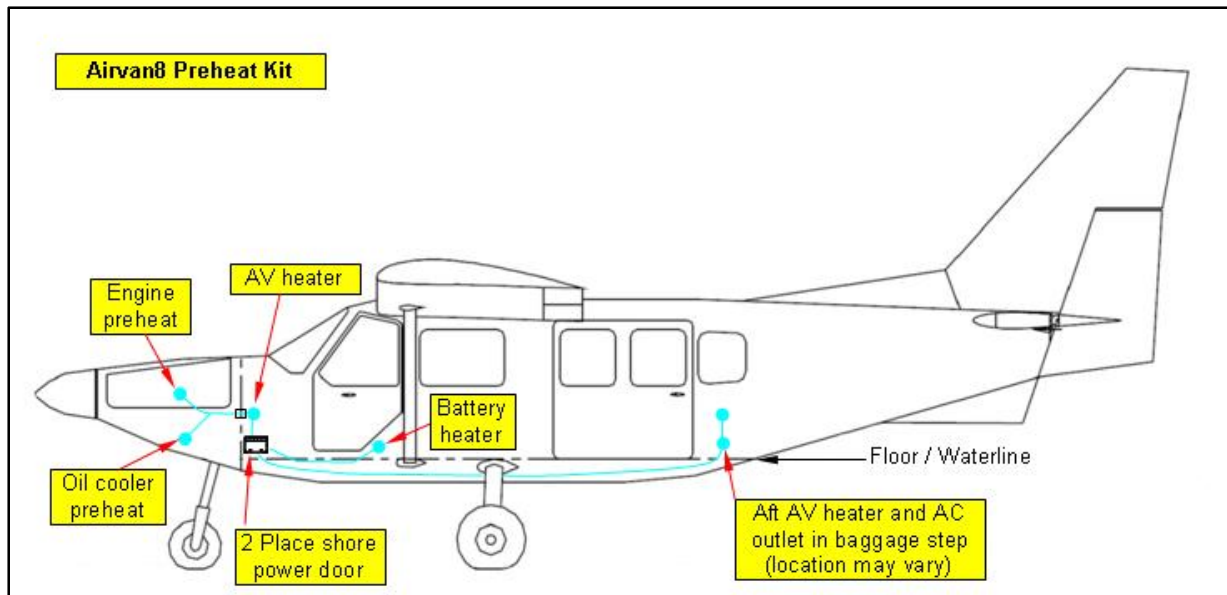

Figure 2 - Overview of Tanis Cold Weather Modification. Reference door installation instruction Table 1 and GippsAero SB-GA8-2015-160.
- a) Installed 2 place door kit TD03097, plugs and indicator lights on the left side of the aircraft forward of the pilot door (Figures 2 through 4), reference GippsAero SB SB-GA8-2015-160 and individual installation instructions (Table 1). Secure fused links with cable ties on wire and battery cable bundle above plugs (alt circuit protection listed in § 3.6. Options).